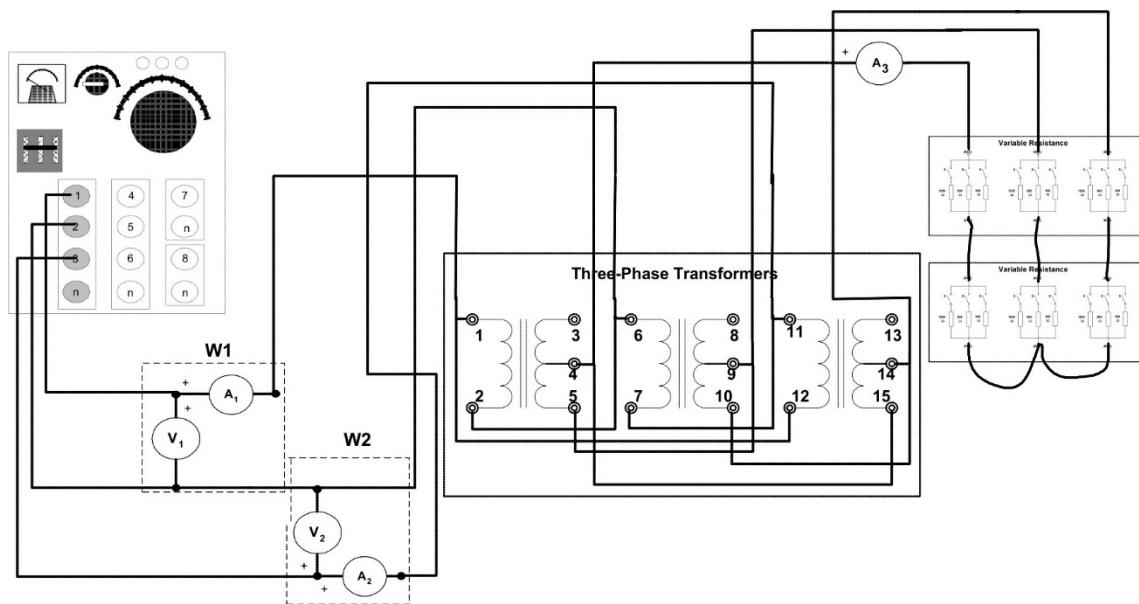

FIGURE 5.12
- 4) Analyze the circuit shown in Figure 5.12 assuming that the transformer ratio of every single-phase transformer is f3: 1 (that is, the 208 V winding is the primary and the 120 V winding is the secondary).
Step 1: Connect the circuit shown in Figure 5.12. Neutral connection will not be used. Use the fixed output of the power supply as your power source. The single-phase transformer ratio to be used is 3:1.